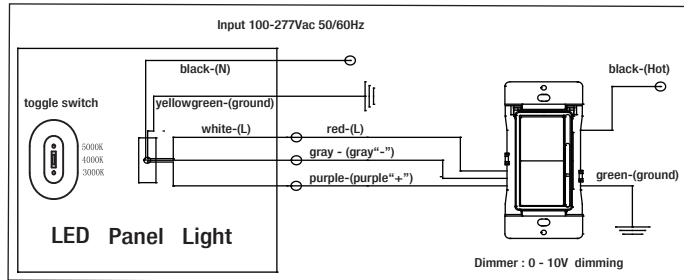

Figure 6
**STEP 4** Refer to Figure 6 to properly wire panel light.